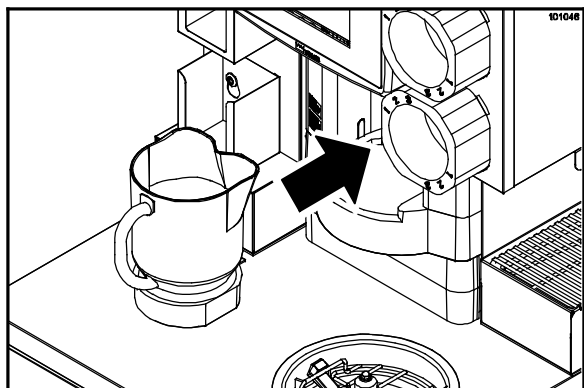

Figure 43
8. Place a blender pitcher in the dispensing area. (See Figure 43.)